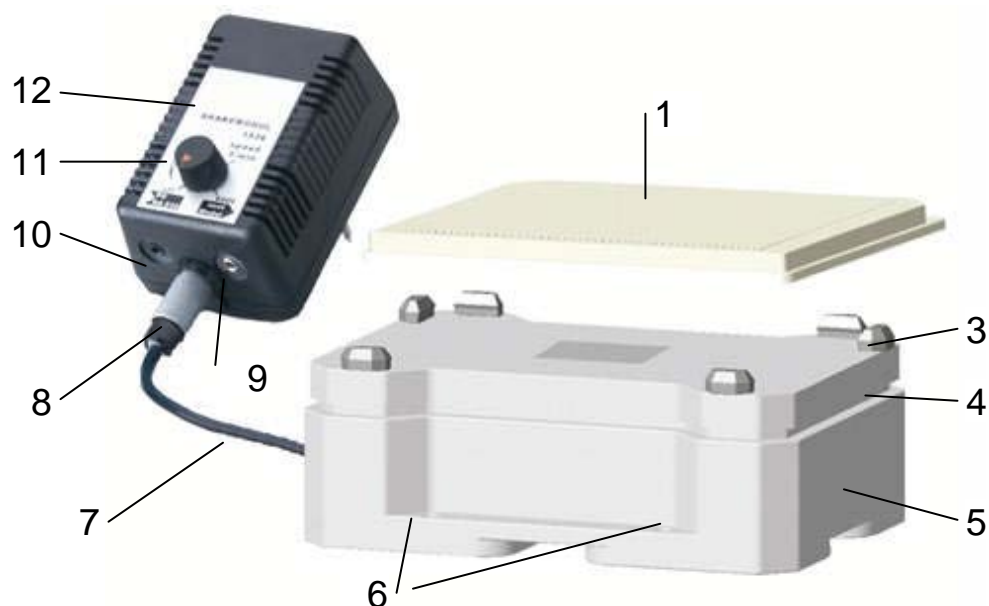
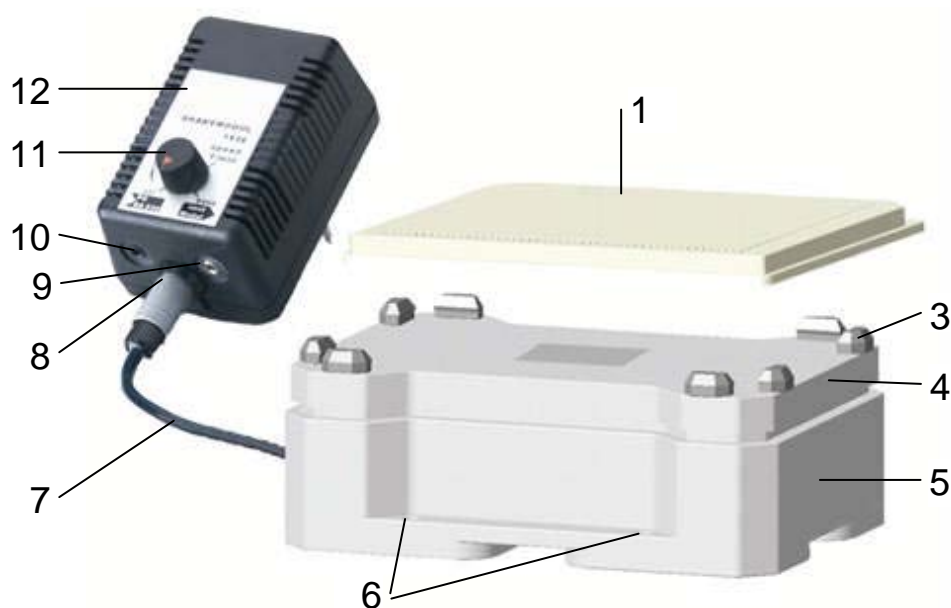

Figure 1: Magnetic shaker *TELESHAKE 1536-6* with the control unit *SHAKEMODUL 1536*
Figure 2: Magnetic shaker *TELESHAKE 1536-8* with the control unit *SHAKEMODUL 1536*
Figures 1 to 3 show the components together with their position numbers. The scope of delivery is listed on page 4.
The remote-controlled **TELESHAKE 1536-6** (Figure 1) and **TELESHAKE 1536-8** (Figure 2) magnetic shakers consist of a drive block (5) with a shaker platform (4) for a 1536 microtiter plate (MTP1) (1). The magnetic shaker is also suitable for 384 microtiter plates.